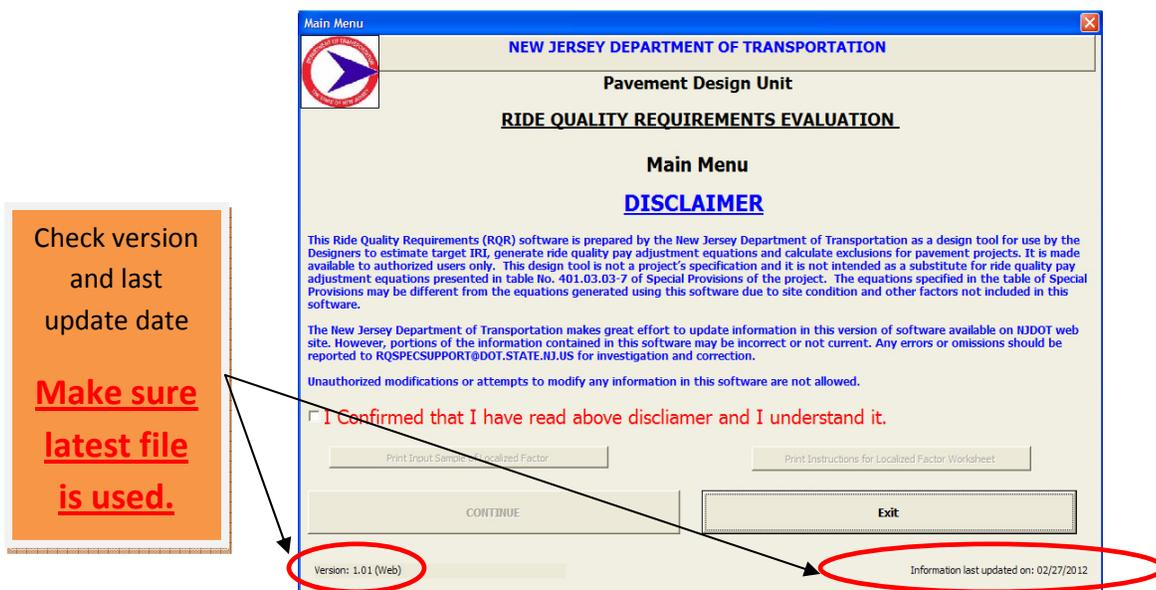

Figure 7
- 3 If the macro is enabled on the user's computer, the window in figure 7 will appear.